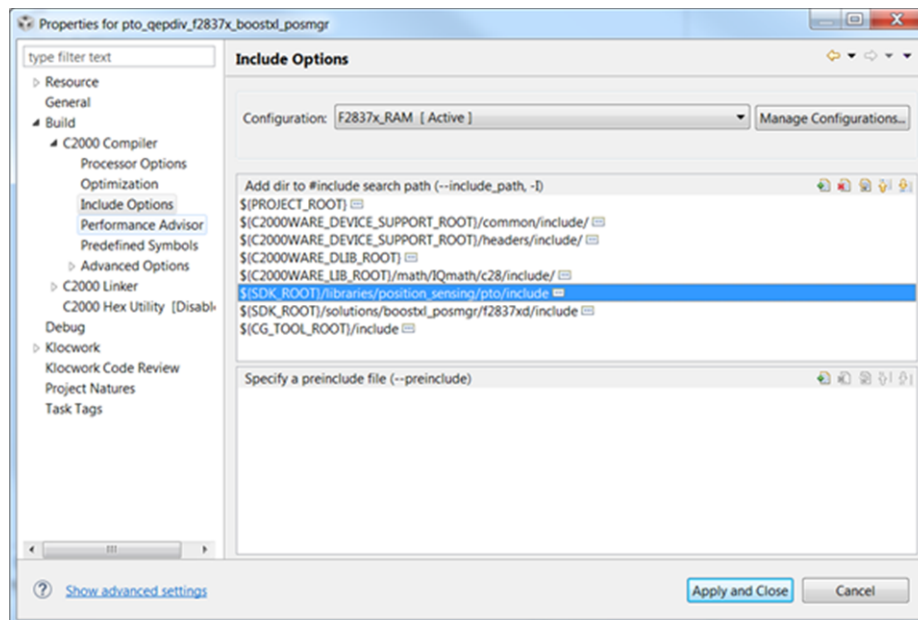

Figure 8. Compiler Include Options for Projects Using PTO Reference APIs
2. Navigate to Project Properties → Build → C2000 Compiler → Include Options, then add the PTO compiled object file path in the include paths (see Figure 8).